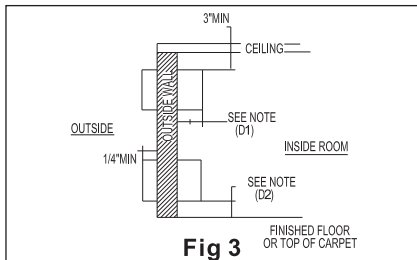

Fig 3
- E) There should be sufficient space margins around the unit to facilitate maintenance and repairs(refer to Figs 3 and 4)